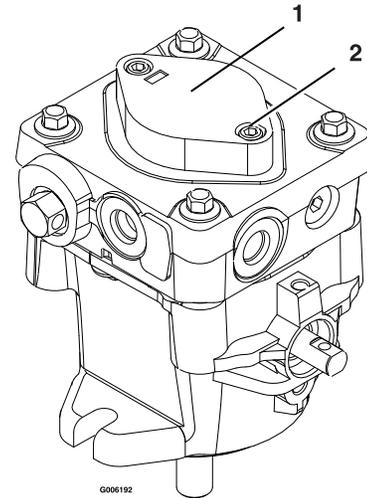

Figure 8
- If either drive wheel does not rotate, one or both of the charge pumps (located on the top of the main pump as shown in Figure 8) may have lost their “prime”. Refer to **Hydraulic System Air Purge** section.
The critical area for purging air from the hydraulic system is between the oil reservoir and each charge pump located on the top of each variable displacement pump (Figure 8). Air in other parts of the hydraulic system will be purged through normal operation once the charge pump is “primed”.
- To “prime” charge pump, loosen two hex socket head capscrews (shown in Figure 8) **1 1/2 turns only. Make sure engine is not running.** Lift the charge pump housing upward and wait for a steady flow of oil to flow out from under the housing. Retighten the capscrews. Do this for both pumps.